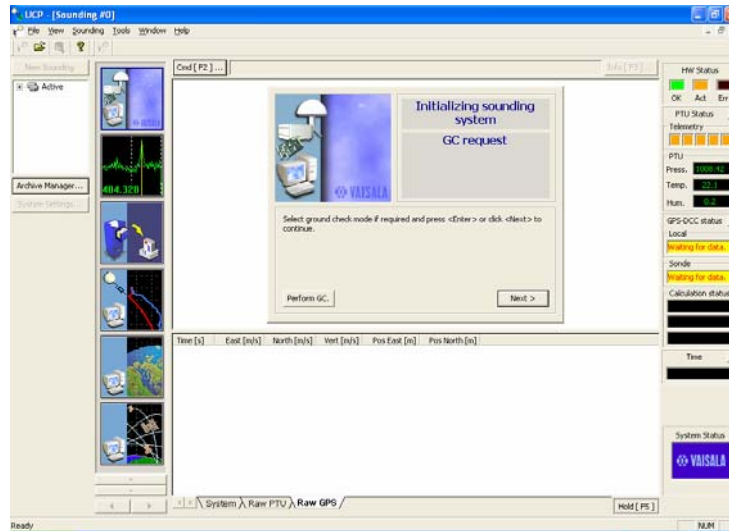

Figure 10
- 10) The system will go through initialization process. Click on “Perform GC” when the following screen (Figure 10) appears.